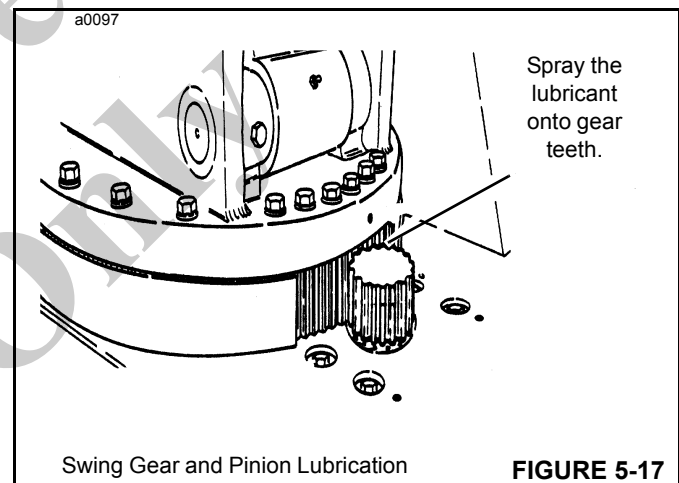

FIGURE 5-17
3. Spray the open gear lube onto the pinion and swing gear teeth (Figure 5-17).